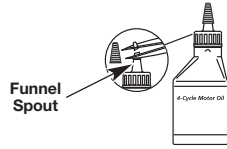

Fig. 3
Your unit is supplied with one 3.04 fluid oz. (90 ml) bottle of SAE 30 SF, SG, SH oil (Fig. 3).
1. Unscrew the top of the bottle of oil and remove the paper seal covering the opening. Replace the top. Next, cut the tip off the funnel spout (Fig. 3).